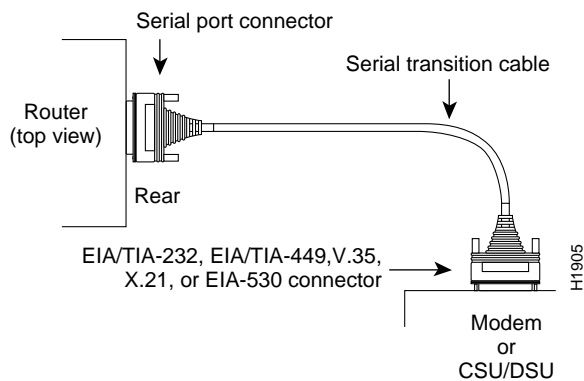

Figure 5 Serial Cable Connections
Step 4 Connect the serial ports to the network as shown in Figure 5.